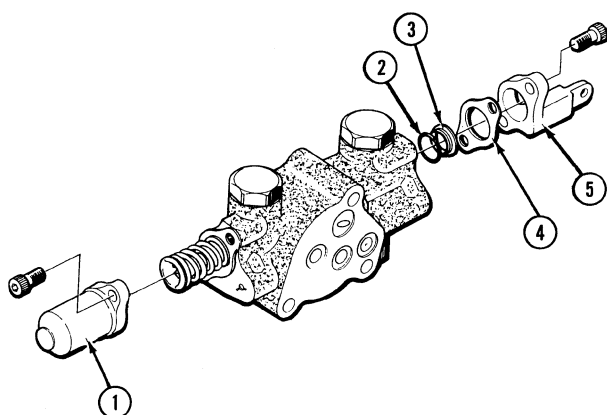

Figure 7
2. Remove the screws and remove cap (1) and bracket (5), Figure 7.
3. Remove seal plate (4), wiper (3) and O-ring (2) from the bracket side, Figure 7.